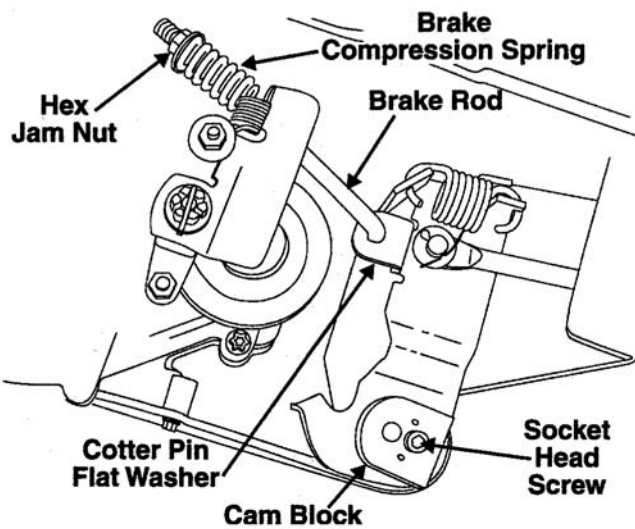

Figure 4-67.
3. Remove cotter pin and flat washer from brake rod and disconnect rod. See figure 4-67.
6. Loosen the socket head screw on the cam block. See figure 4-67.